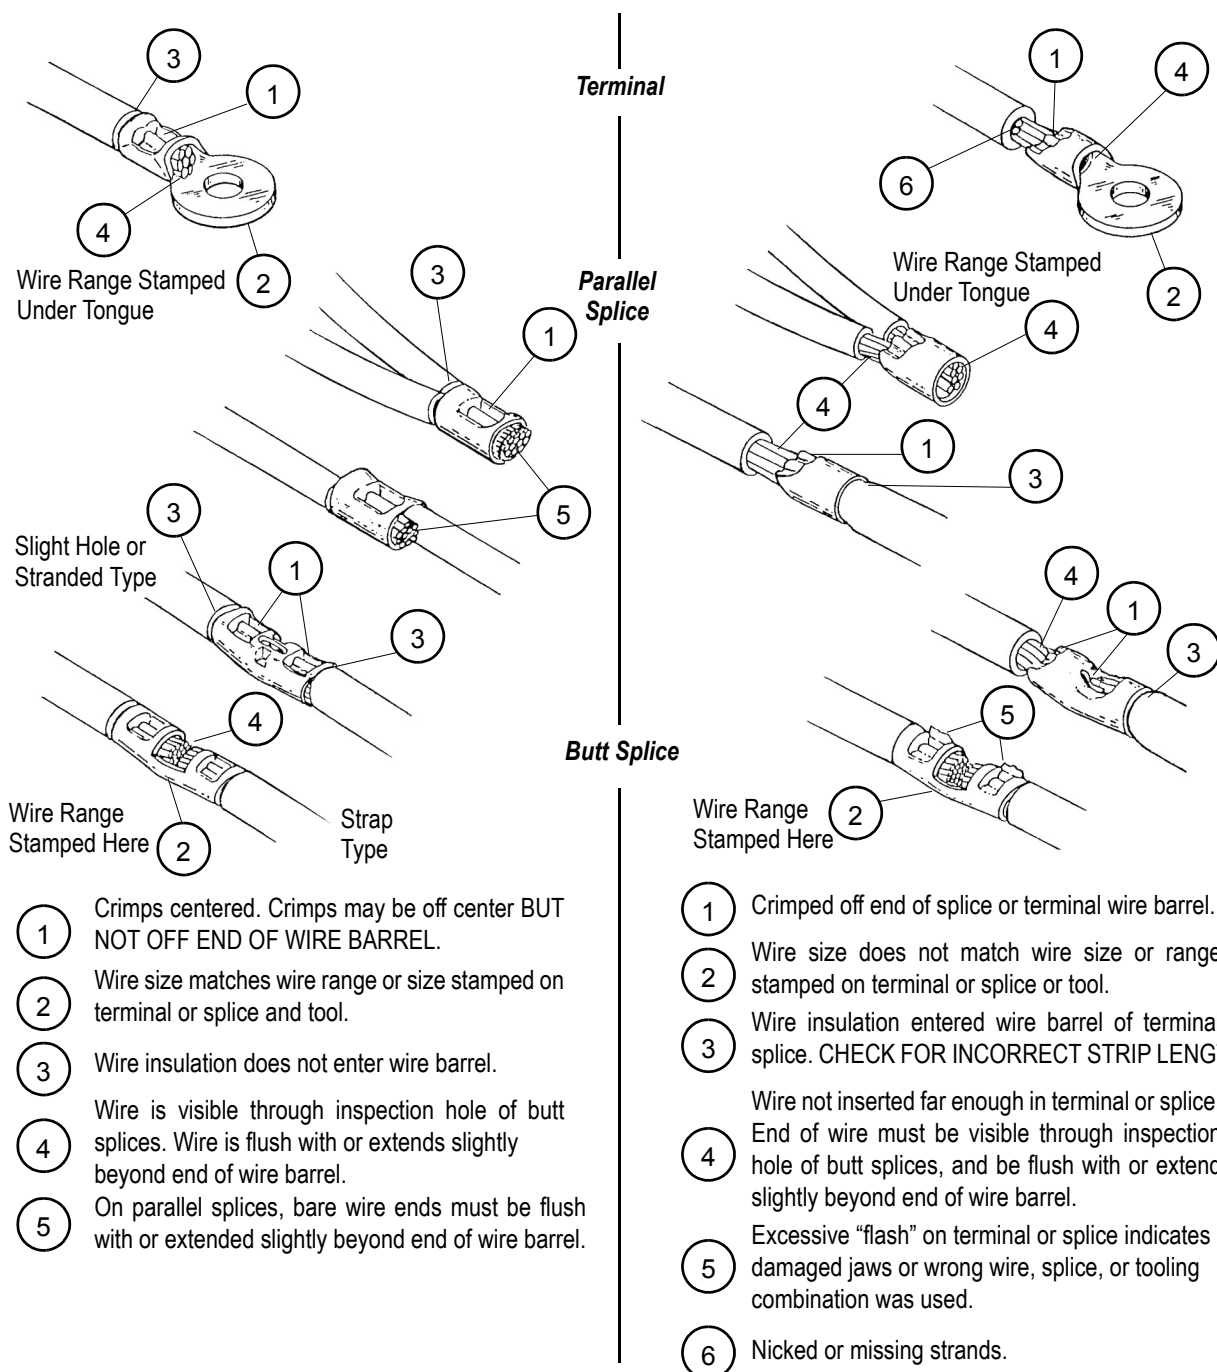

Figure 4
7. Refer to Section 5 and Figure 4 for crimp inspection.
Inspect crimped terminals and splices by checking the features described in Figure 4. Use only terminals or splices that meet the conditions shown in the "ACCEPT" column. "REJECT" terminations can be avoided through careful use of instructions in Section 4, and by performing regular head maintenance, as described in Section 6.